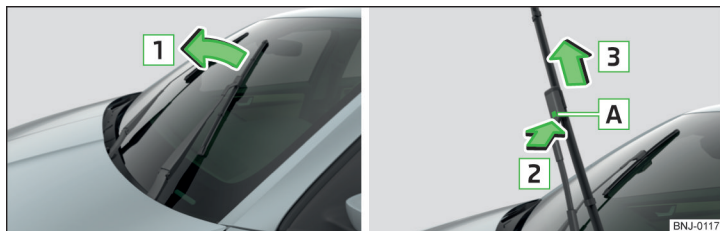

Fig. 198 Changing the front windscreen wiper blade
- Lift the wiper arm from the window in the direction of the arrow **1** » Fig. 198.